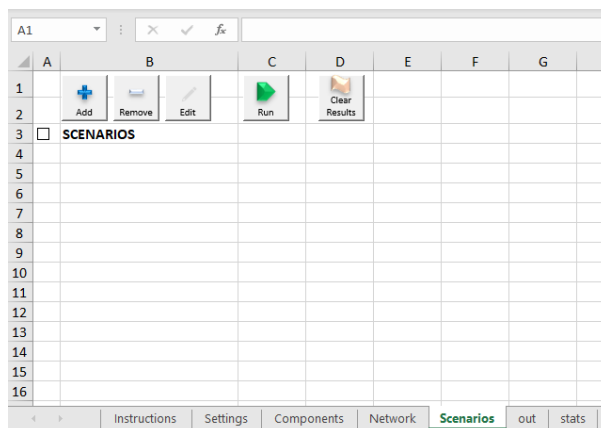

Figure 26: The Scenario Sheet
5. Finally, add the scenarios and intensity values as shown in Figure 26, 27, 28, 29, 30, 31, 32, 33, 34.